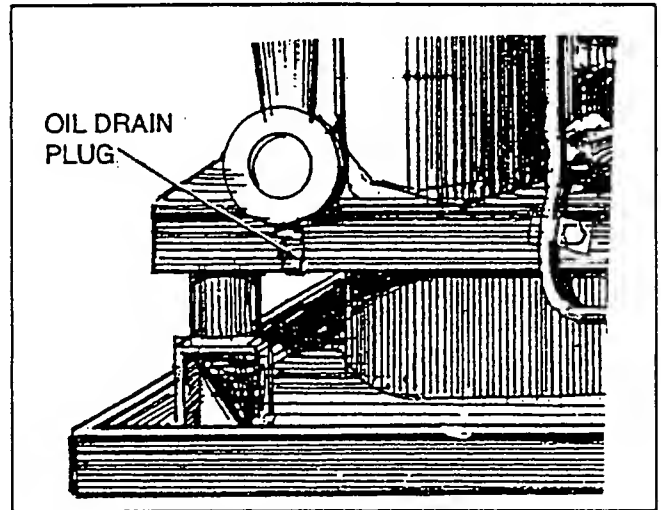

Figure 8 — Location of Oil Drain Plug
- With engine still warm from running, remove oil drain plug (Figure 8). Drain oil completely into a suitable container.